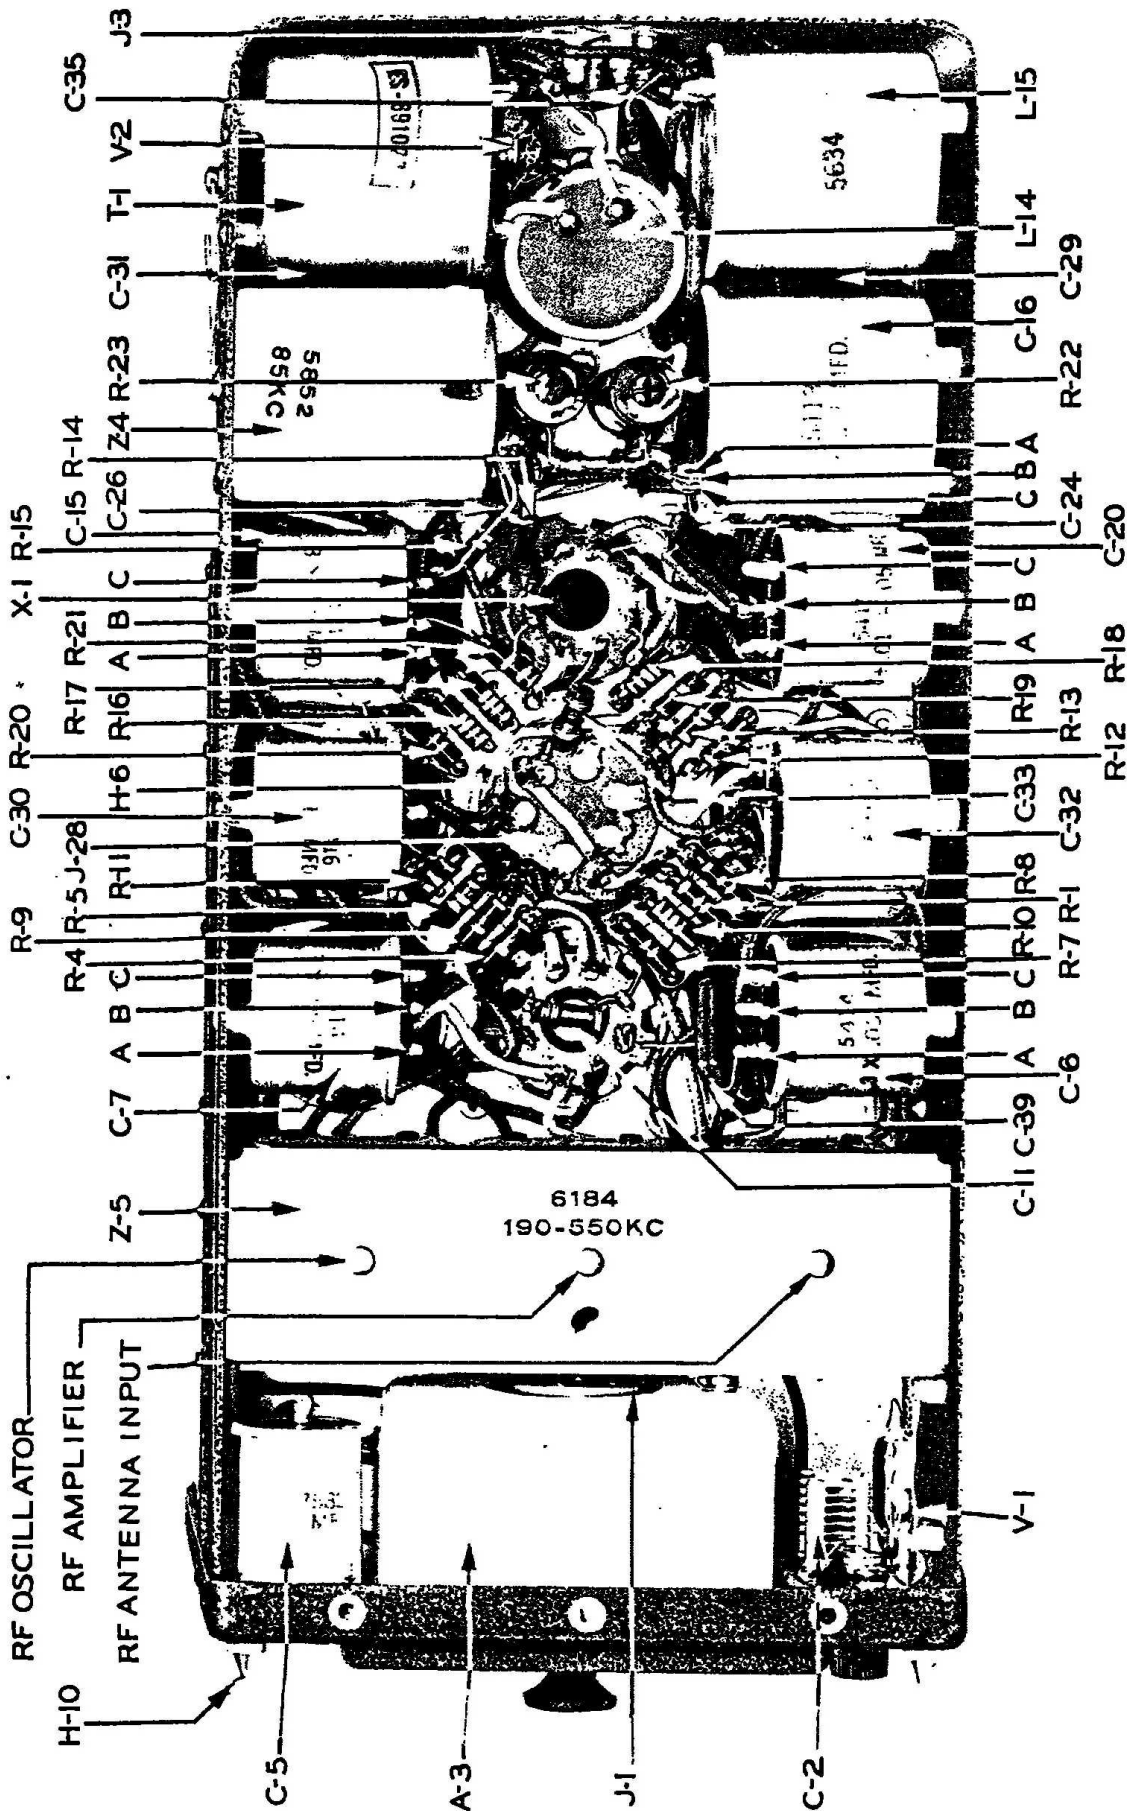

FIGURE 4—TYPICAL RADIO RECEIVER, BOTTOM INSIDE VIEW
(3) Antenna coil L-1 is contained in Z-5A which is a unit of plug-in r-f coil set assembly Z-5 (Figure 4). Z-5B contains the r-f amplifier coils L-2 and L-3. Z-5C contains L-4, L-5, R-3 and R-6 of the r-f oscillator. L-1 of Z-5A, L-3 of Z-5B and L-5 of Z-5C contain iron cores which are used to adjust each coil to a particular value of inductance. After this adjustment at the factory, the iron cores are sealed in position. A subsequent change in the setting of any of these will upset the tracking of that circuit.
(4) C-1 is a small fixed capacitor which couples the antenna to the input tuned circuit. The capacitances of C-1 and C-2 are so designed that for any capacitive antenna it is possible to resonate the antenna circuit by tuning C-2.
(5) C-39 (across L-2 in Radio Receiver BC-453-A (or -B) only) serves to tune L-2 to a frequency lower than 190 kc, and by so doing, to increase the amplification of signals at the low frequency end of the tuning range. This assists in producing a reasonably uniform receiver sensitivity over the tuning range. The plate-to-screen capacitance of r-f amplifier tube V-3 (Tube VT-131) and the capacitance of the wiring to L-2, perform a corresponding function in Radio Receivers BC-454-A (or -B) and BC-455-A (or -B).
(6) L-5 of the r-f oscillator has a lower inductance than L-3 of the r-f amplifier circuit. This lower value of L-5, aided by the insertion of C-10 between L-5 and ground, results in an r-f oscillation which is higher in frequency than the signal frequency. By design, this difference is equal to the intermediate frequency throughout the tuning range of the receiver. L-4 and L-5 are the grid and plate coils of the r-f oscillator. C-4C, with trimmers C-4E and C-4G, and C-10, with trimmer C-9, together determine the tuning capacitance across L-5. C-8 is a grid blocking capacitor, and R-3 is a grid resistor. R-6 is a series resistor in the plate circuit which not only serves to
* See Paragraph 14a(11) for differences between Radio Receivers BC-453-A and BC-453-B, etc.